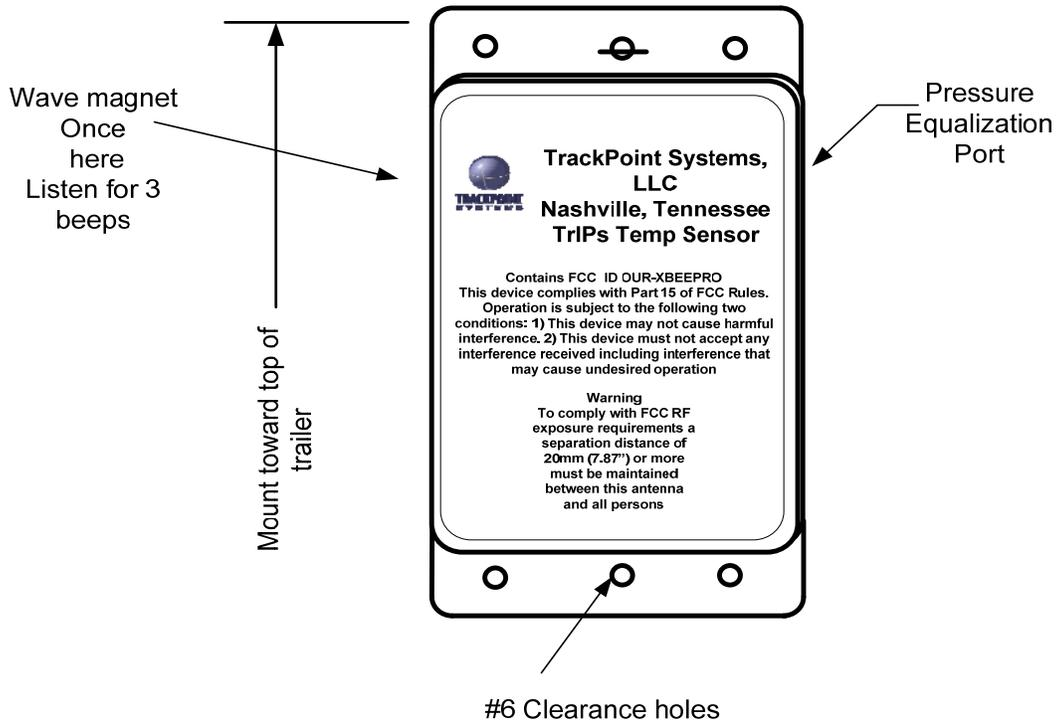

Figure 1
- 5.1. Recommended Location for Temp Sensor Mounting location is near the upper edge of a side wall near the back of the trailer. The location should be selected to provide data from the most common area for temperature variation in the trailer or compartment. It should not be in the direct air path from the cooling system. Mount the Sensor as shown in Figure 1:
Do NOT wave the magnet across the side more than once without pausing for 120 seconds minimum. (Reference Figure 1.)